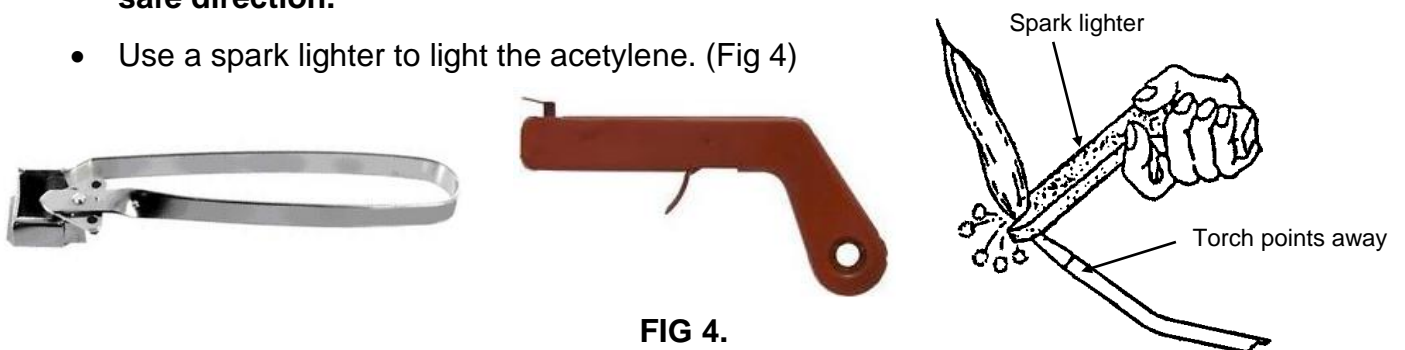

FIG 4.
- Use a spark lighter to light the acetylene. (Fig 4)